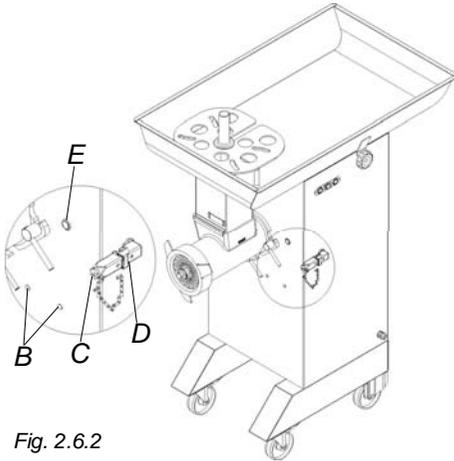
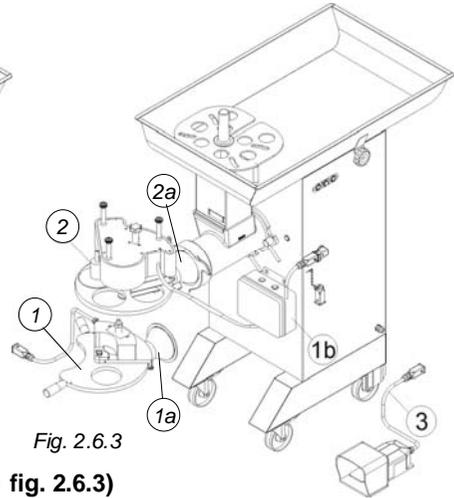

Fig. 2.6.2
Fig. 2.6.3
### 2.6.2 Semi-automatic burger machine (1 fig. 2.6.3)
- a part that is firmly fastened on the head by means of the head's ring nut (1a fig. 2.6.3);
- a male ILME connector coming out of the box that couples with its correspondent female (D fig. 2.6.2) present on the machine.
### 2.6.3 Automatic burger machine (2 fig. 2.6.3)
- a part that is firmly fastened on the head by means of the head's ring nut (2a fig. 2.6.3);
- an electric box (1b fig. 2.6.3) fastened onto the machine with two pegs (B fig. 2.6.2);
### 2.6.4 Pedal control (3 fig. 2.6.3)
Once you are done using the accessory, to ensure standard machine operation, it is important to place cap C back in its seat as shown in figure 2.6.2.